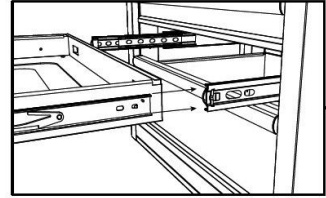

Fig. 2
2. Hold the slide on the drawer while aligning it with the slide on the chest (Fig. 2).